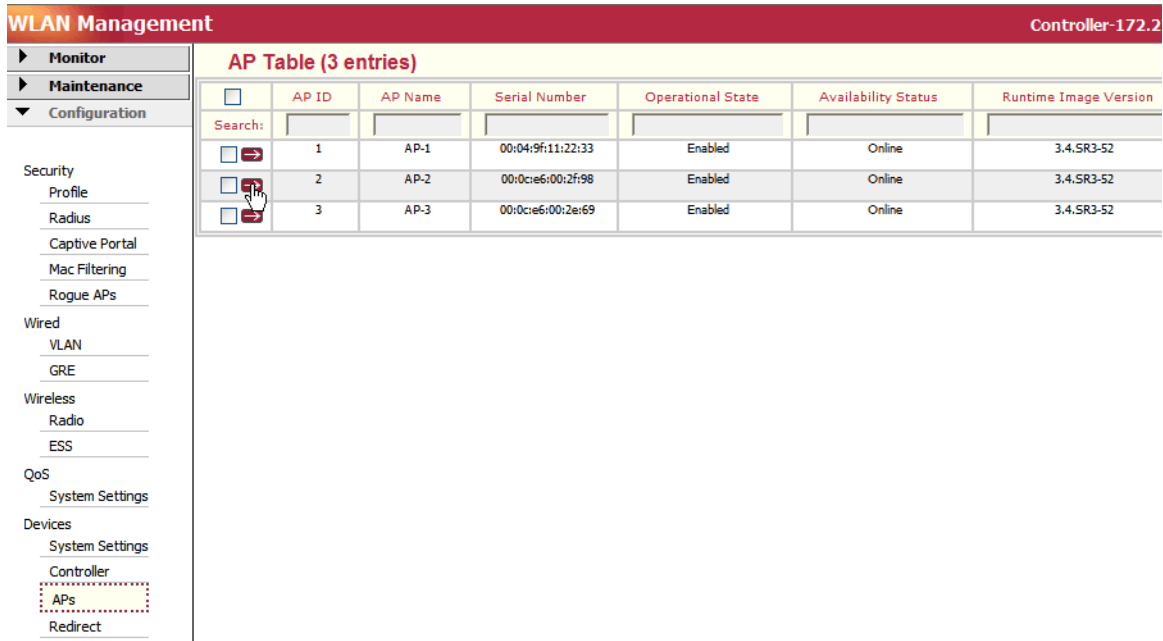

Figure 9: AP Table Configuration Window
2. From the controller GUI, click **Configuration > Devices > APs**. The AP Table shown in Figure 9 is displayed.